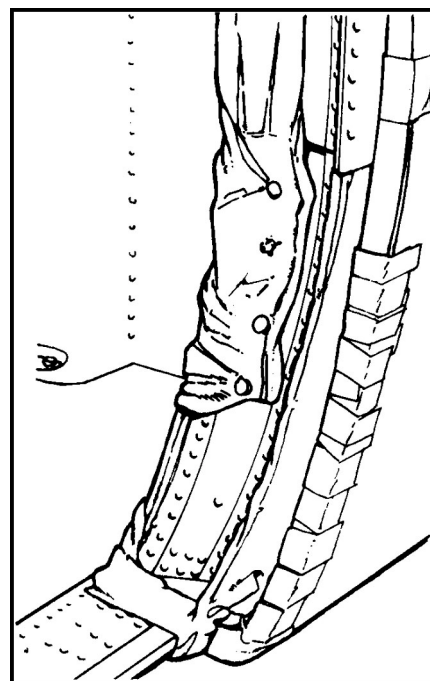

Figure 17-8. UH-60A door edge padded and taped.
- (2) Remove seats in the cargo department (except as required by aircraft crew).
- (3) Tape cargo floor troop seat and tie-down fitting wells in front of the cargo doors.
- (4) Tape sharp edges and tie-down fitting wells on the cargo floor and door jambs that could cut or fray static lines or snag parachutists' equipment.
- (5) Tape the weather stripping on cargo doors below the door catch (Figure 17-8).